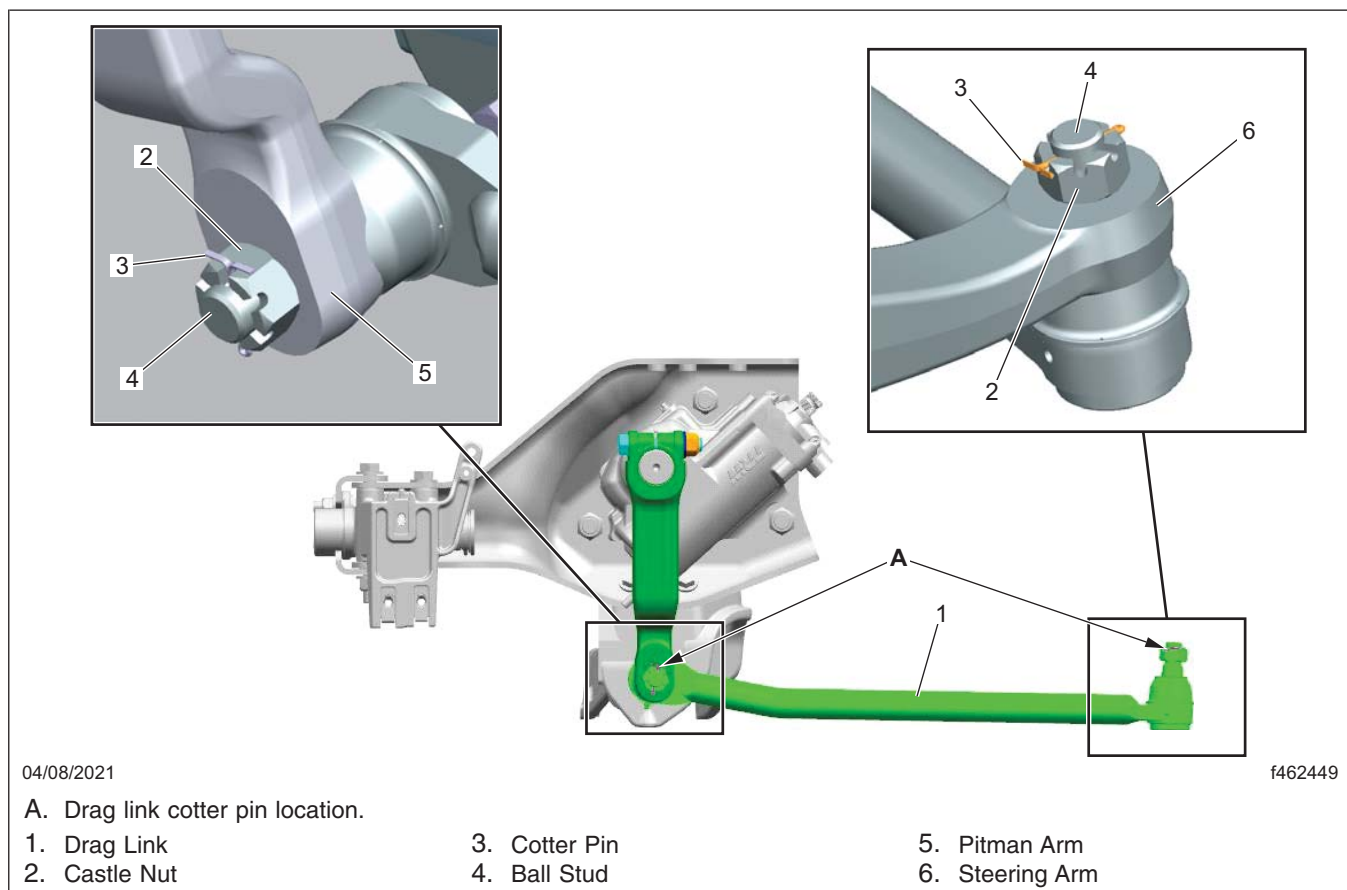

Fig. 2, Drag Link Cotter Pin Location
- Remove and discard the cotter pin from the castle nut at the drag link to steering arm joint, then tighten the castle nut to the torque value shown in **Table 1**. See **Fig. 2**.
1. At both ends of the drag link, remove the cotter pins, then remove the castle nuts. See Fig. 2. Discard the cotter pins and castle nuts.
10. Install and lock a new cotter pin on the castle nuts at both ends of the drag link. See Fig. 2.